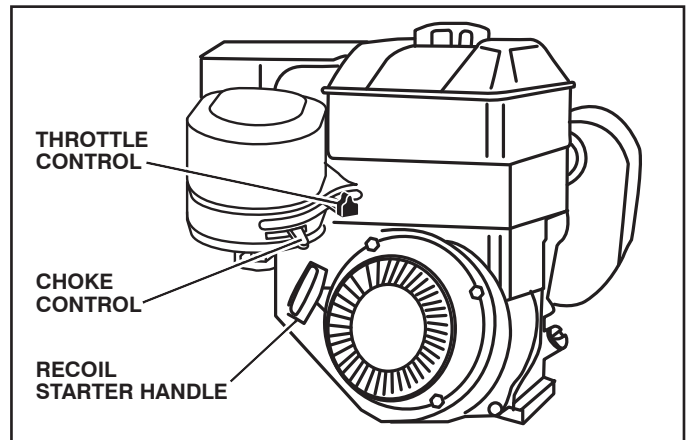

Fig. 14
## TO START ENGINE (See Fig. 14)
- You will find tilling much easier if you leave a row untilled between passes. Then go back between tilled rows. (See Fig. 14) There are two reasons for doing this. First, wide turns are much easier to negotiate than about-faces. Second, the tiller won't be pulling itself, and you, toward the row next to it.